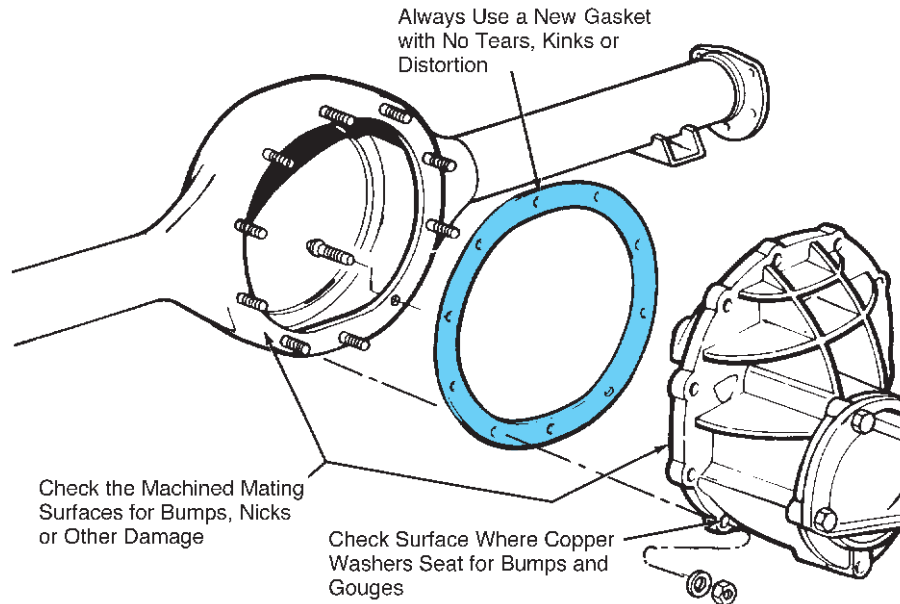

FIGURE 12-47 A new gasket should be used when replacing a carrier. (Courtesy of Ford Motor Company)
2. On housings using studs, place a new gasket in position on the housing. If cap screws are used, place the gasket on the carrier (Figure 12-47).